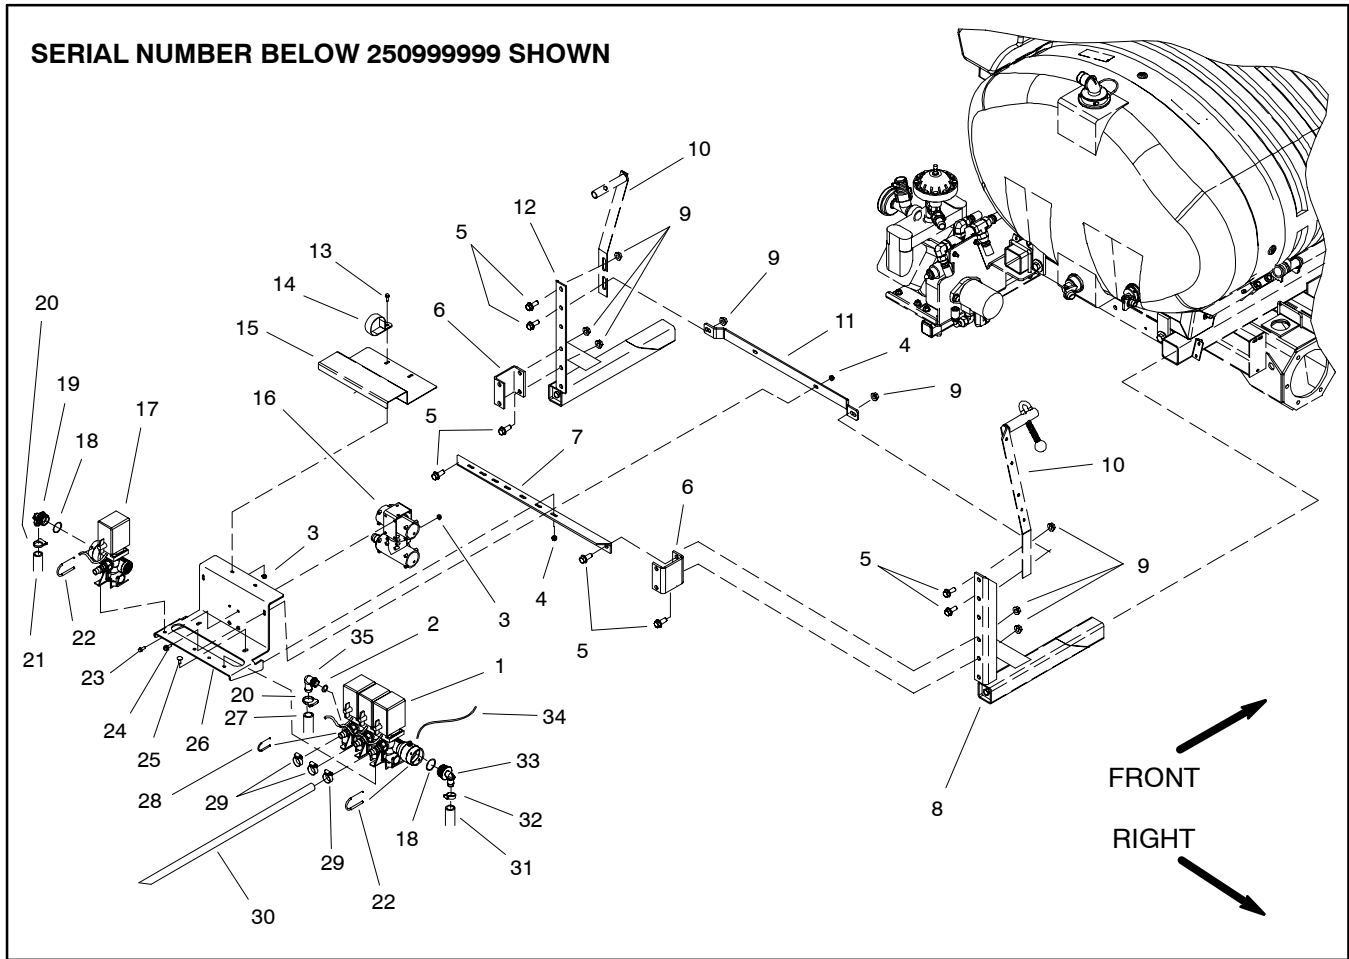

Figure 20
Removal (Fig. 20)
6. Remove additional spray control components as required using Figure 20 as a guide. Discard all removed O-rings and gaskets.
Assembly (Fig. 20)
- 1. Install spray control components using Figure 20 as a guide. Replace all removed O-rings and gaskets.